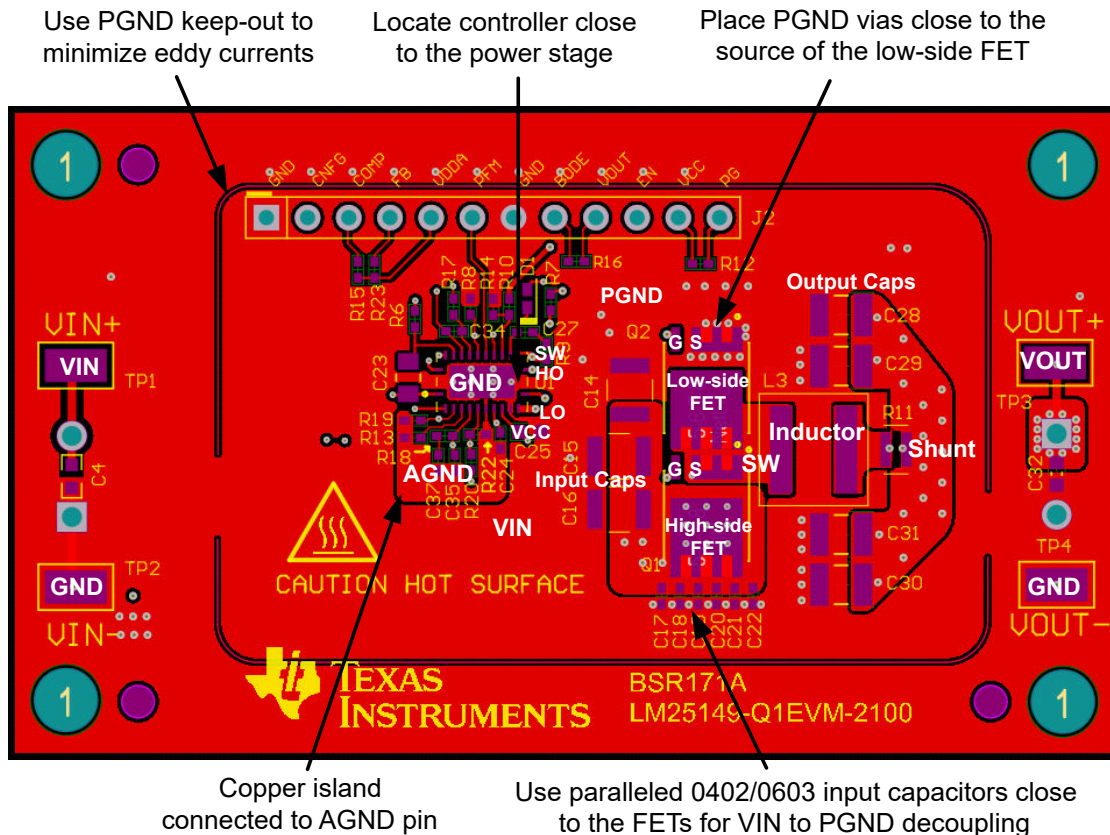

Figure 9-47. PCB Top Layer – High Density, Single-sided Design
Figure 9-47 shows a single-sided layout of a synchronous buck regulator with discrete power MOSFETs, Q1 and Q2, in SON 5-mm × 6-mm case size. The power stage is surrounded by a GND pad geometry to connect an EMI shield if needed. The design uses layer 2 of the PCB as a power-loop return path directly underneath the top layer to create a low-area switching power loop of approximately 2 mm2. This loop area, and hence parasitic inductance, must be as small as possible to minimize EMI as well as switch-node voltage overshoot and ringing.
- Make the ground connections to the LM5148-Q1 controller as shown in Figure 9-47. Create a power ground directly connected to all high-power components and an analog ground plane for sensitive analog components. The analog ground plane for AGND and power ground plane for PGND must be connected at a single point directly under the IC – at the die attach pad (DAP).